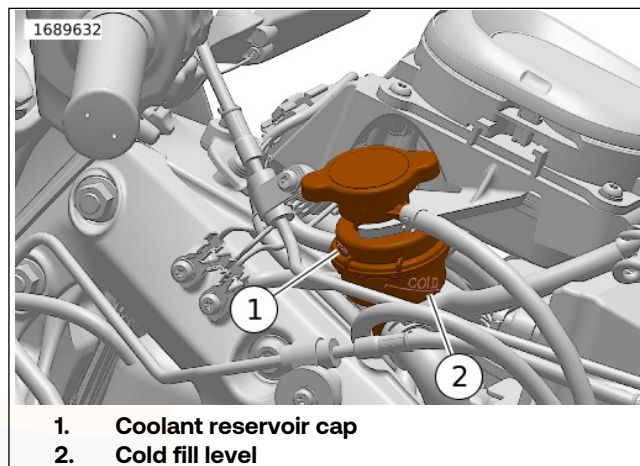

Figure 59. Coolant Reservoir
4. See Figure 59. Check that coolant level is at or slightly above the "COLD FILL" line (2).